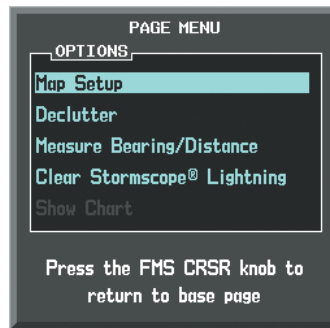

Figure 6-109 Navigation Map Page Menu
- 2) With 'Map Setup' selected (Figure 6-109), press the **ENT** Key.